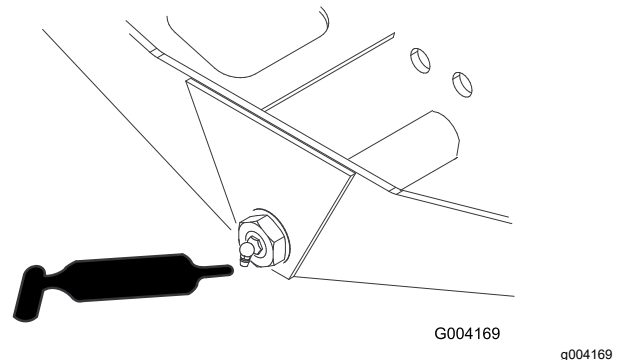

Figure 43
- Axle-steering pivot (1)—Figure 43